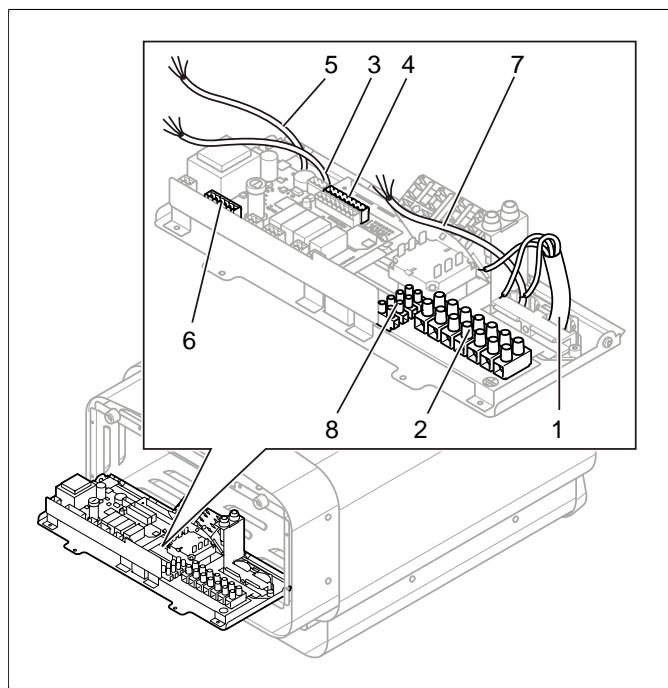

Figure 9: Circuit board
Connect the electrical cable (1) to terminal (2) (see **Figure 9**, Page 5) according to wiring diagram (see The section called **Connection/wiring diagram**, Page 8).
4. Connect the control panel cable (3) to terminal(4) (see **Figure 9**, Page 5) according to wiring diagram (see The section called **Connection/wiring diagram**, Page 8).
5. Connect the sensor cable (5) on the terminal (6) (see The section called **Connection/wiring diagram**, Page 8) according to the wiring diagram (see The section called **Connection/wiring diagram**, Page 8).
6. Connect light cable (if relevant) (7) see **Figure 9**, Page 5 to terminal (8) according to the wiring diagram **Figure 19**, Page 8.